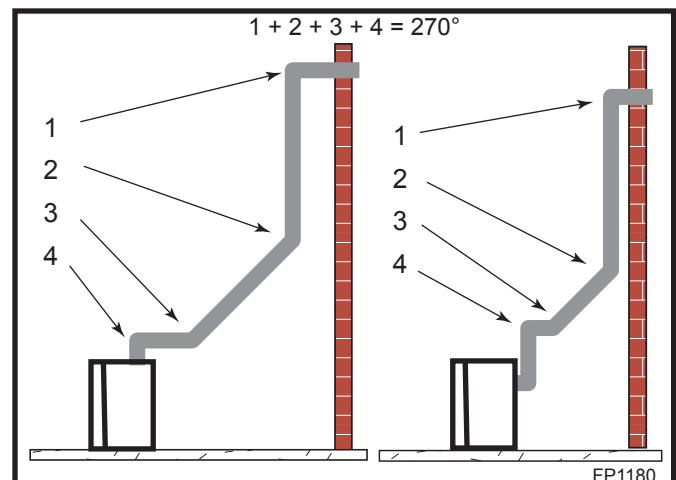

Fig. 32 Maximum elbow usage.
- The maximum number of 45° elbows permitted per installation is six (6). These elbows can be installed in either the vertical or horizontal run.
- The maximum number of elbow degrees in a system is 270°. (Fig. 32)